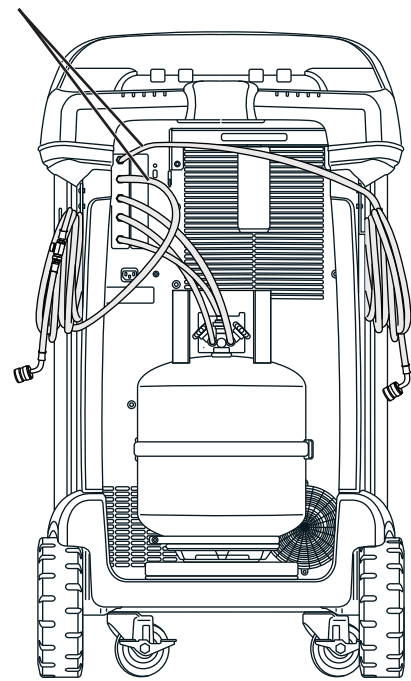

Figure 13
2. Coil service hoses and store on the hooks on either side of the unit. See Figure 13.